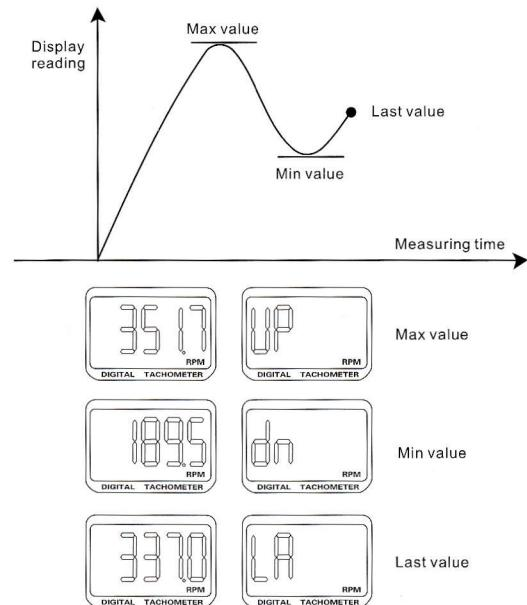

Fig.1
(2) Memory call button operation A readout (the max value, min value , last value) obtained immediately before turning off the MEASURING BUTTON is automatically memorized . For example, please refer following fig.1. That Memorized value can be displayed on the indicator by turn once depressing the memory button. The Symbol “ UP ” represents the Max. Value and “ DN ” the Min. Value, “ LA ” the Last Value.